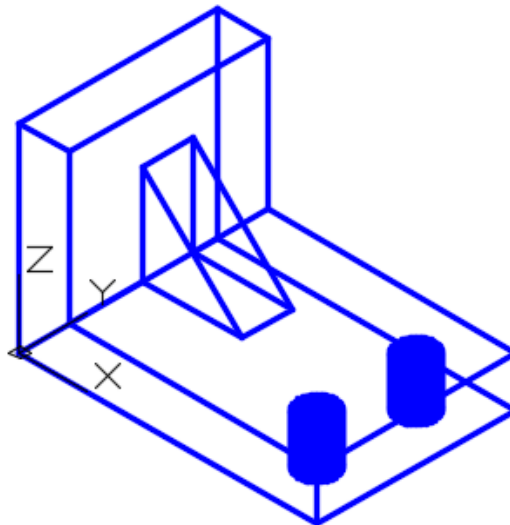

Figure Step 14
Step 14 Your model is now one solid and should appear as shown in the figure. (Figure Step 14)